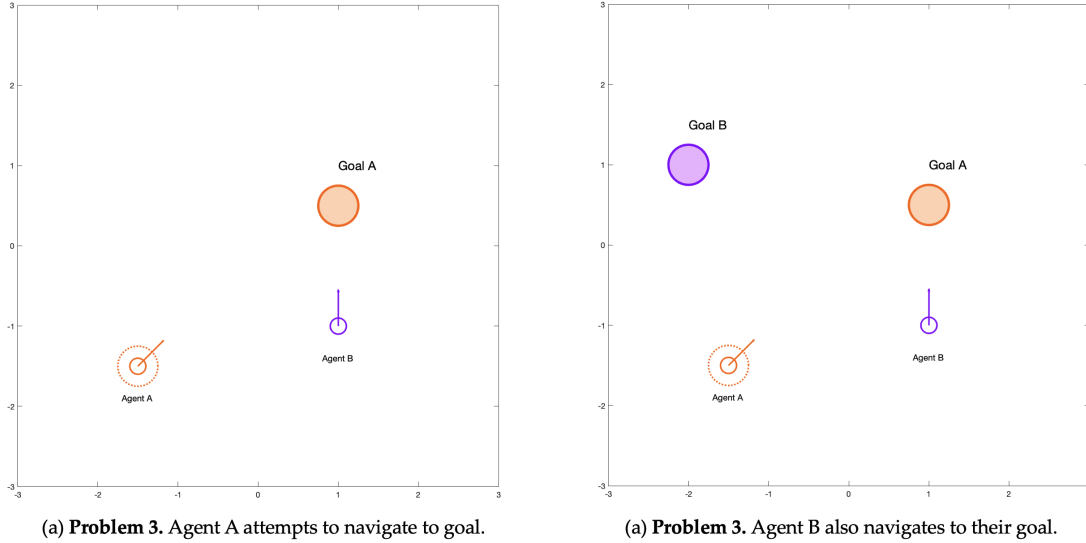

Figure 1: Environment setup for Problem 3.
Problem 3. Multi-agent reachability analysis & safety filtering (50 points). Consider the pursuit-evasion game between two agents: agent A wants to avoid agent B and agent B seeks to collide with agent A (see left Figure 1). Let agent A's state be their planar position and heading $x^A := (p_x^A, p_y^A, \theta^A)$ and similarly for agent B, $x^B := (p_x^B, p_y^B, \theta^B)$. Each agent's 3D dynamics are:
i.e., the goal area is the circle of radius $0.25 m$ around $(1, 0.5)$ (left, Figure 1)). However, it needs to avoid colliding with agent B. One way to do this is use a nominal planner to steer agent A to their goal without explicitly accounting for agent B's future behavior, and then apply a safety filter whenever required.
4. Suppose that agent B is not adversarial; instead, agent B is using the same kind of planner as agent A, but agent B is heading towards goal $(-2, 1)$ with radius $0.25 m$ (right, Figure 1). During this interaction, simulate agent A as using its original safety filter during interaction. Plot the agent trajectories and agent A's control input. How is agent A's performance impacted in this new interaction?